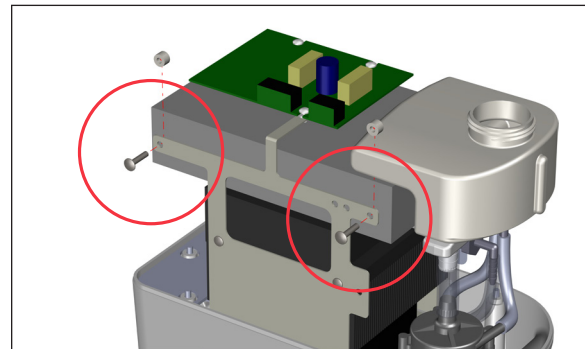

Figure 124 - Step 6 Secure power supply wires to front bracket
6. Secure the power supply to the thermoelectric subassembly front bracket using two #8 x 3/8" spacers and two #8-32 x 3/4" Phillips truss-head screws (Figure 124).